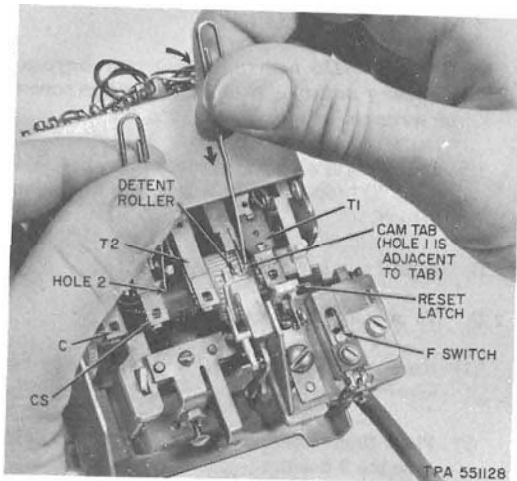
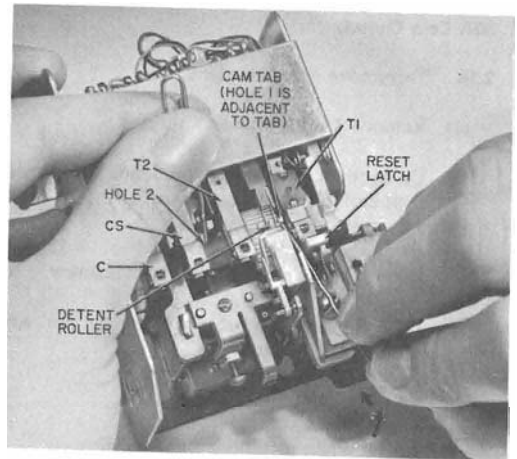

Fig. 5—Increasing Totalizer Rate
Fig. 6—Decreasing Totalizer Rate
**Increasing Rate (Fig. 5)**
- (2) Further rotate shaft approximately 10 steps until a tab on the T1 cam is accessible as shown in Fig. 5 and 6.
- (3) Insert a KS-16750, List 3 releaser or a paper clip into one of the four holes indicated as hole 2 in center of shaft. Hold paper clip firmly so that shaft cannot move.
- (4) Position a second releaser or paper clip into the hole on T1 cam indicated as hole 1 and rotate cam in direction of the curved arrow as shown.
**If hole 1 in T1 cam has been mutilated or clogged beyond use, place releaser or paper clip against tab as shown in Fig. 5 and push tab in direction of the straight arrow.**
- (5) One step of rotation of the T1 cam in this direction increases the rate by 5 cents.
- (6) Check new initial rate setting per 2.10.
**Decreasing Rate (Fig. 6)**
- (7) Repeat steps (1) through (3).
- (8) Position a second releaser or paper clip into the hole on T1 cam indicated as hole 1 and rotate cam in direction of the curved arrow as shown.
**If hole 1 in T1 cam has been mutilated or clogged beyond use, place releaser or paper clip against tab as shown in Fig. 6 and push tab in direction of the straight arrow.**
- (9) One step of rotation of the T1 cam in this direction decreases the rate by 5 cents.
- (10) Check new initial rate setting per 2.10.